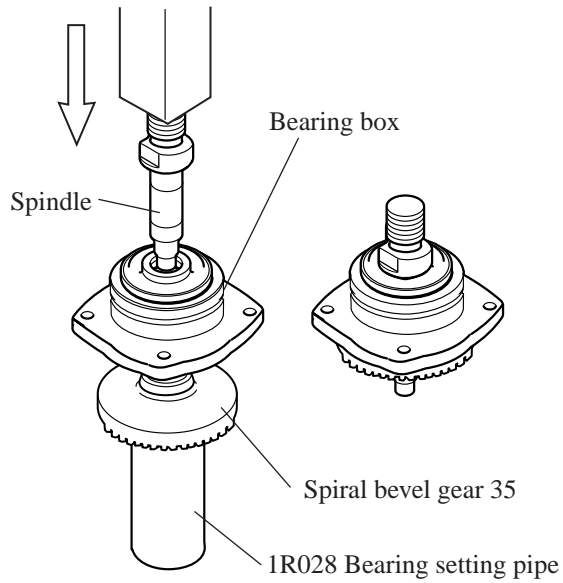

Fig. 4B
- (4) Supporting spiral bevel gear 35 with 1R028 "Bearing setting pipe", assemble spindle to spiral bevel gear 35 by pressing with arbor press as illustrated in Fig. 4B.